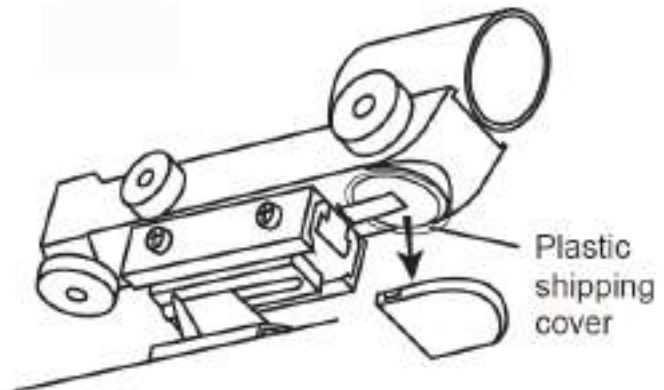

Fig.24
- Check if the plastic strip protecting the new battery has been removed. The battery is located under a cover. This location can differ in different red dot finderscope models (fig.24).